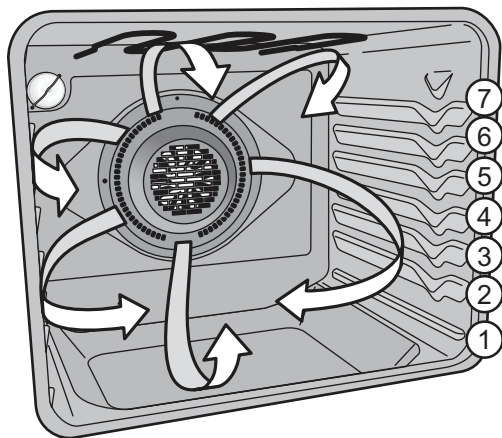

Figure 9: Air movement using convection
- For best results when using a single oven rack, place rack in position 4 or 5 (See Figure 9). When using two oven racks, place in positions 2 and 5. When using three oven racks, place in positions 2, 4, and 7 (use offset rack only in position 7).